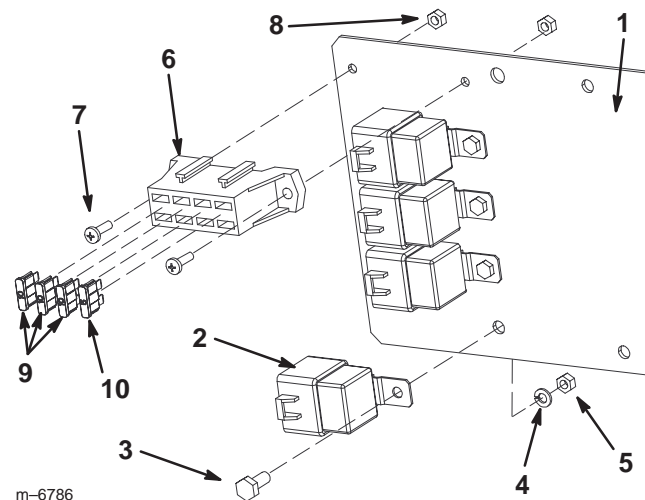

Figure 3
1. Secure 4 relays to the mount plate (Fig. 3), using 4 bolts (1/4 x 5/8 inch), 4 lock washers (1/4 inch), and 4 nuts (1/4 inch).
2. Secure the fuse block end of the wiring harness to the mounting plate (Fig. 3), using 2 screws (#10) and 2 nuts (#10).
- Ensure that the 3, 10-amp fuses and 1, 5-amp fuse are installed in the fuse block on the mount plate as illustrated in Figure 3.